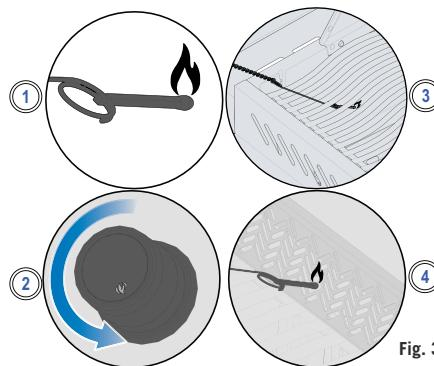

Fig. 3
4. If the burner will not ignite – turn burner control knob clockwise to the OFF position. Wait 5 minutes. Repeat step 2 and 3. (Fig. 3)
3. While turning the corresponding burner knob to high. (Fig. 3)